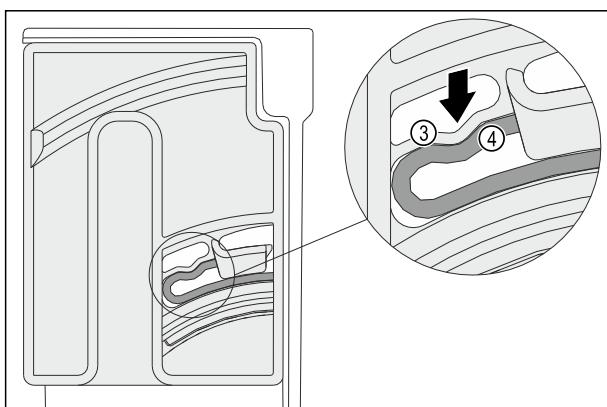

Fig. 128
- ▶ The elastic element Fig. 128 (3) of the turning unit audibly engages in the round shape of the rib Fig. 128 (4).